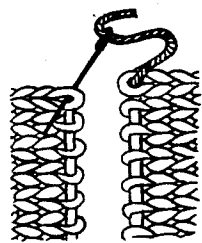

Fig. 72
(B) Insert the needle into the second stitch and back through the first stitch. (Fig. 72) Then insert the needle into the third stitch back through the second stitch pulling the yarn snug.